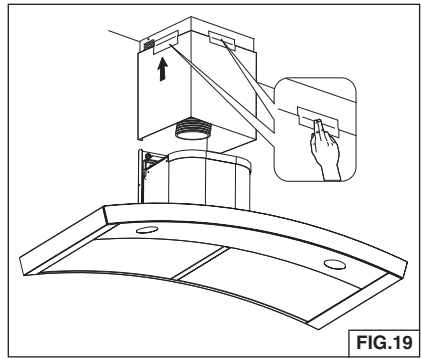

FIG.19
6. Temporarily secure the upper and lower flue together with duct tape as shown. Fig. 19.